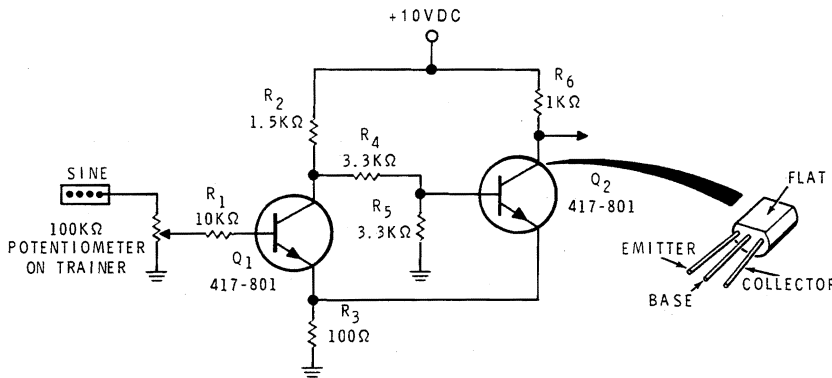

Figure 6-51
- Turn on the Trainer and set the supply voltage to +10 VDC. Turn off the Trainer. Construct the circuit shown in Figure 6-51.